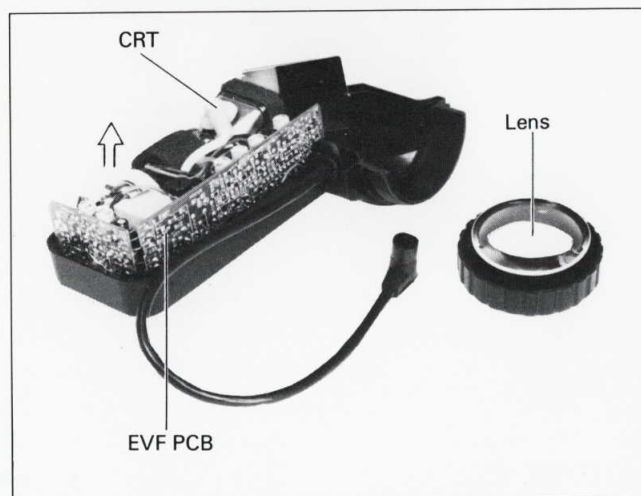

Fig. 10-3 Removal of CRT and EVF PCB
- (3) The CRT and PCBs can be removed by pulling in the direction of the arrow as shown in **Fig. 10-3**.